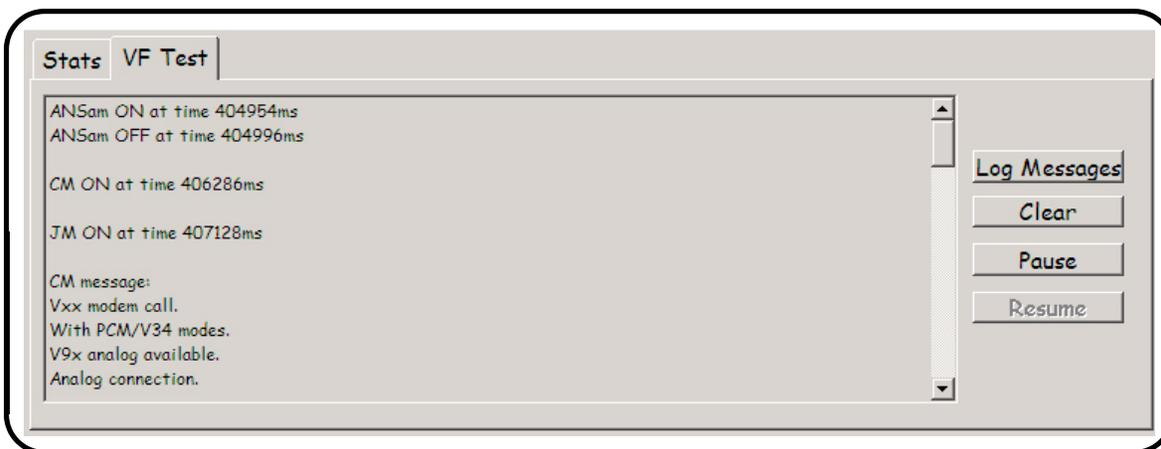

Figure 4 — V.90 Modem Monitor Logging Window
10. As the call progresses, the "VF Test" tab will display analysis of the various modem negotiation steps, time stamped to the millisecond as shown in *Figure 4*, below.